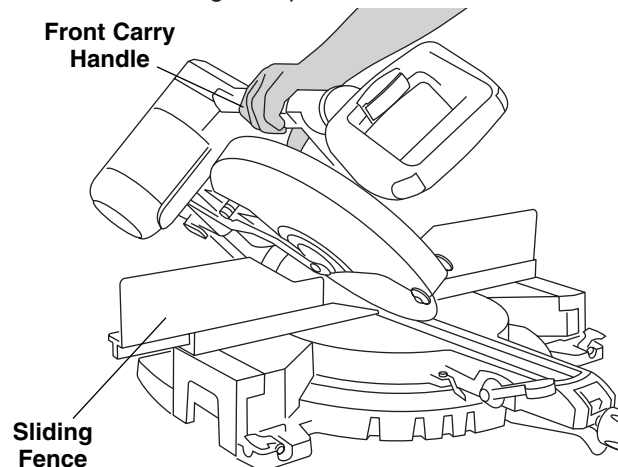

Figure 29.
1. Move the left sliding fence to clear saw assembly and re-lock (Figure 29).
4. Once in the desired bevel position, fully press down bevel lock lever below table height (Figure 29)..
1. Move right sliding fence to clear saw assembly and re-lock (Figure 29).
1. Move left and right-sliding fences to clear saw assembly and re-lock (Figure 29).